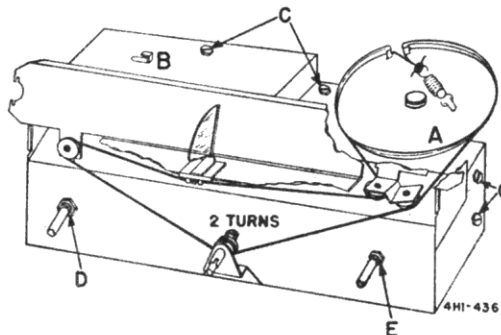

Figure 36. Radio Tuner Showing Chassis Cover and Dial Assembly.
- e. Remove the tuning knobs. Position the dial drum as shown in figure 36; unhook spring at "A"; and keeping tension on dial cord, hook it to tab "B".